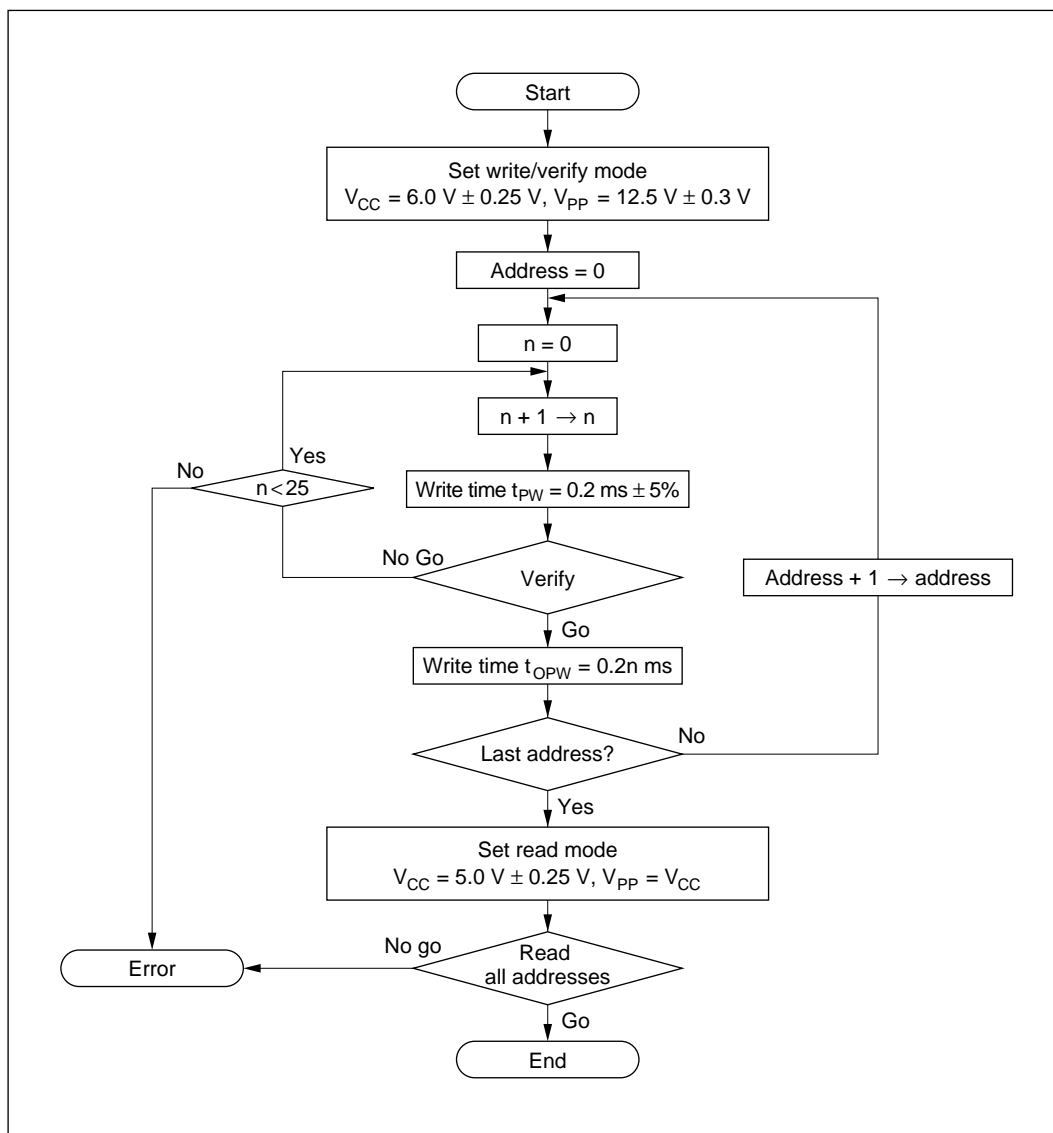

Figure 6-4 High-Speed, High-Reliability Programming Flow Chart
An efficient, high-speed, high-reliability method is available for writing and verifying the PROM data. This method achieves high speed without voltage stress on the device and without lowering the reliability of written data. The basic flow of this high-speed, high-reliability programming method is shown in figure 6-4.
2. t_{DF} is defined at the point at which the output is floating and the output level cannot be read.3. t_{OPW} is defined by the value given in figure 6-4 (high-speed, high-reliability programming flow chart).